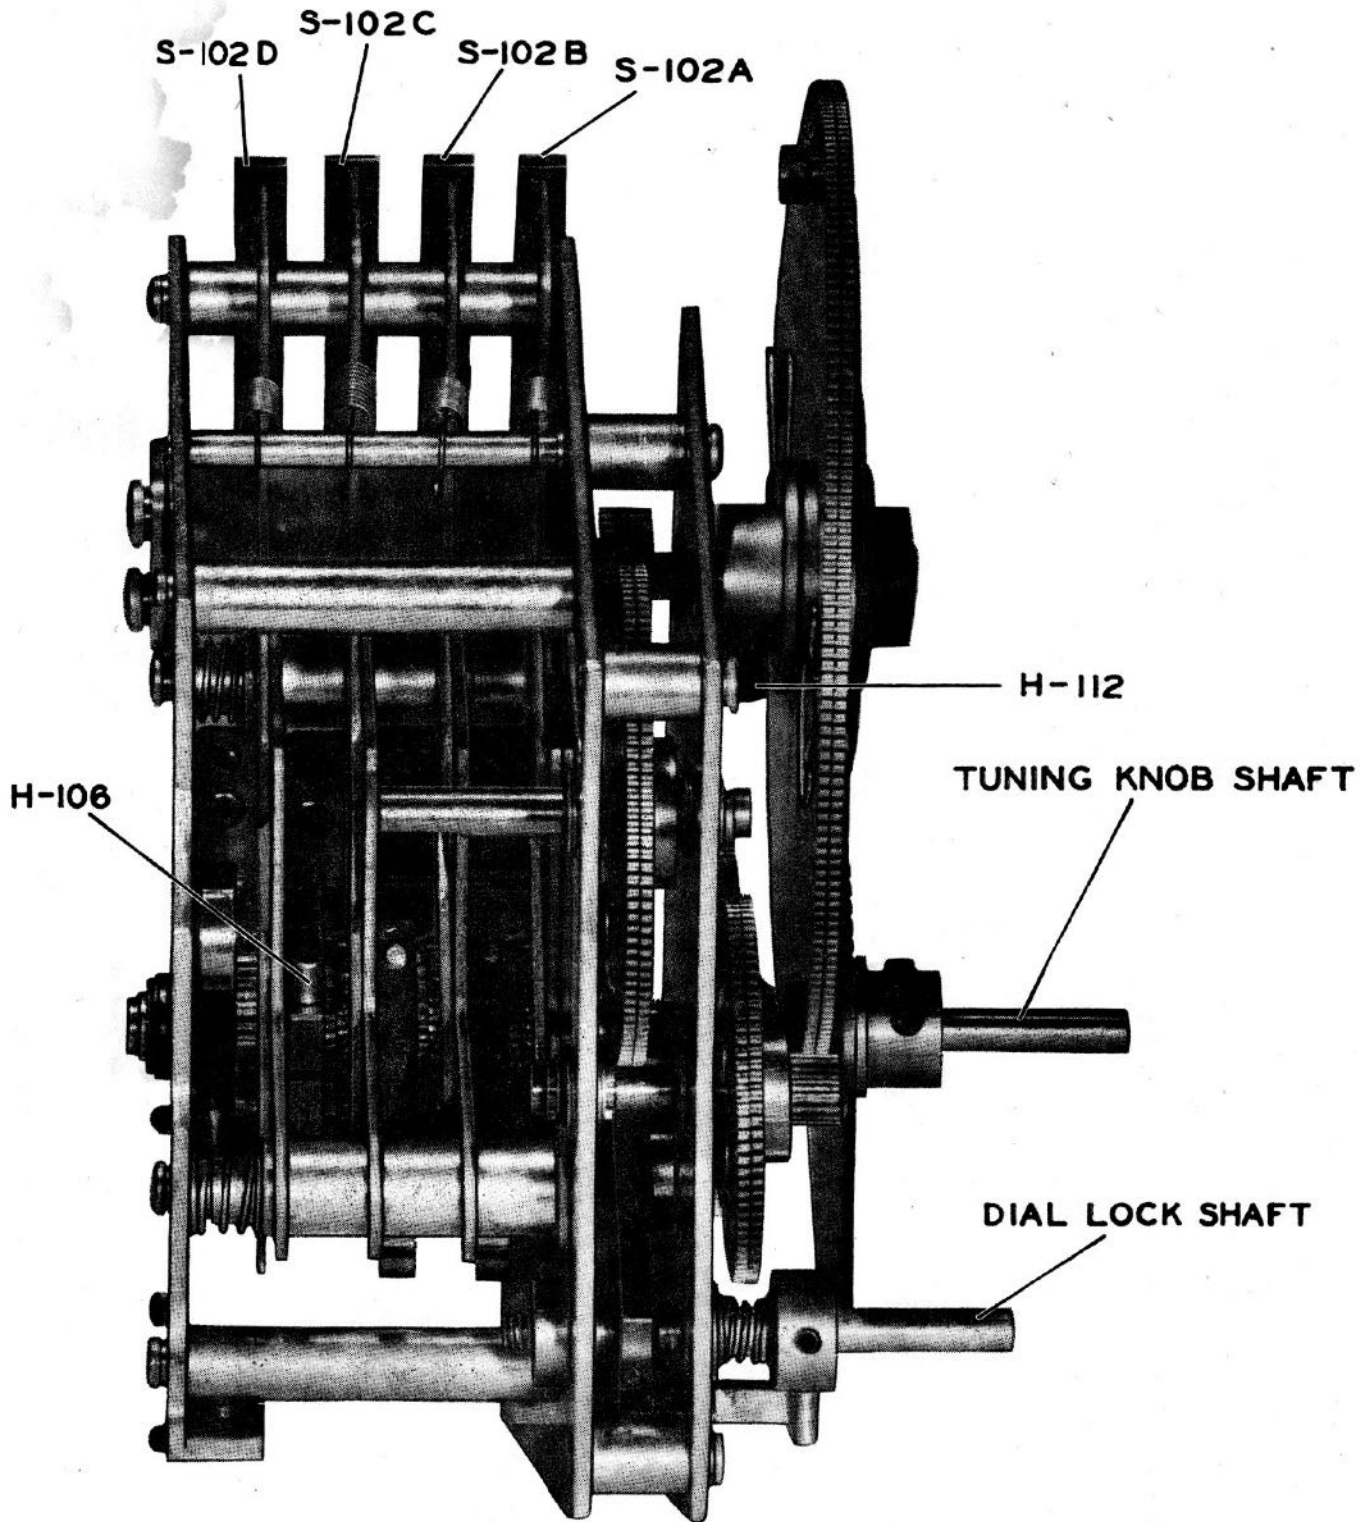

Figure 4.21A DIAL DETENT SYSTEM REMOVED FROM CHASSIS
4.21 The Model RCK Radio Receiver incorporates a new tuning mechanism design which requires some careful study before the presetting of the channels can be attempted. All the components mentioned are shown in the photographs, figures 4.21A